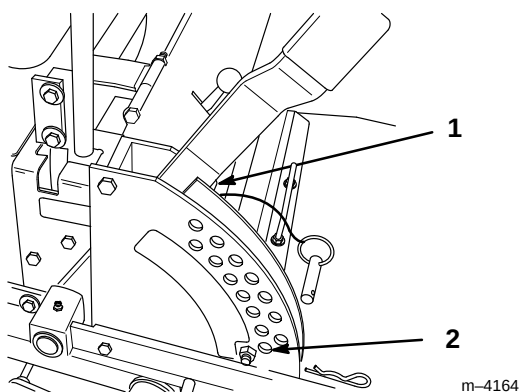

Figure 45
2. Check tire pressure of all four (4) tires. If needed, adjust to 13 psi (90 kPa)
4. Raise the deck to the transport position and take all force off of the two large deck lift springs by loosening nut in front of each spring (Fig. 45).
5. Place two 1-1/2" (38 mm) thick blocks under rear left and right lower edge of mower. Place one 2" (51 mm) block under front center lower edge of mower. Lower mower to the 1-1/2" (38 mm) height-of-cut position (Fig. 45).
1. Raise deck lift lever to the transport position, (Fig. 45).